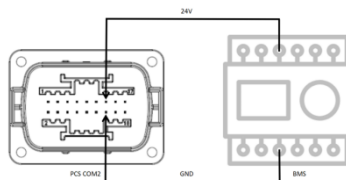

Figure 6-29 BMS Disconnects From BAT+
Step 2: To disconnect the main positive contactor of the PCS, an external safety power supply is required, as shown in Figure 6-29.